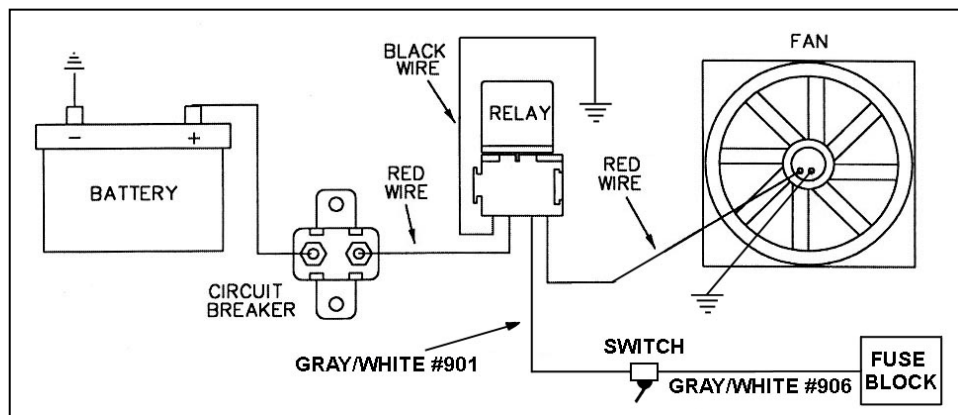

Figure 10-4A Typical Fan Relay Installation (Painless Part #30101)
- 10.5.4** Connect HEADLIGHT SECTION A wire #901 (gry/wht) to the Electric Fan Relay. This wire is an activation wire for the relay, **NOT A POWER FEED**. The other end of wire #901 is in the ACCESSORY SECTION SWITCHES and should be connected to the electric fan switch in the dash. Connect 906 (gry/wht) from ACCESSORY SECTION B+ to the other side of the fan switch. **Figure 10-4A** shows a typical fan relay installation.